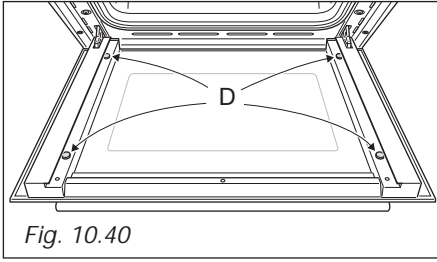

Fig. 10.40
- Check that the four rubber pads are in place (**D** in fig. 10.40).